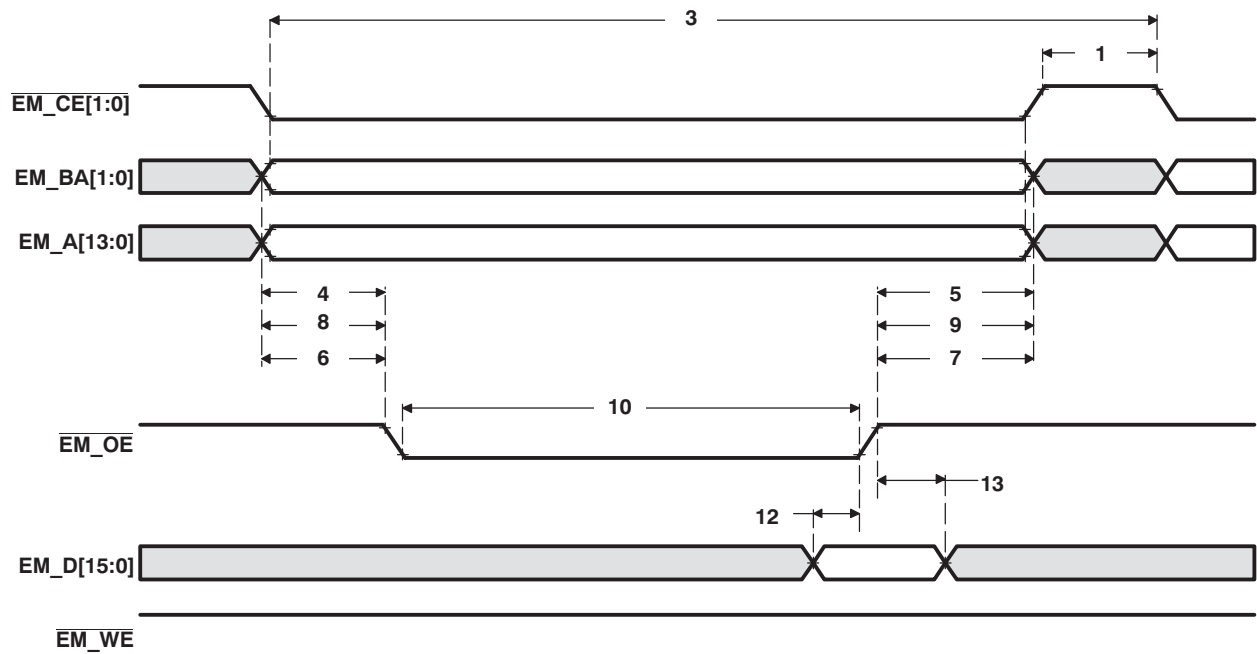
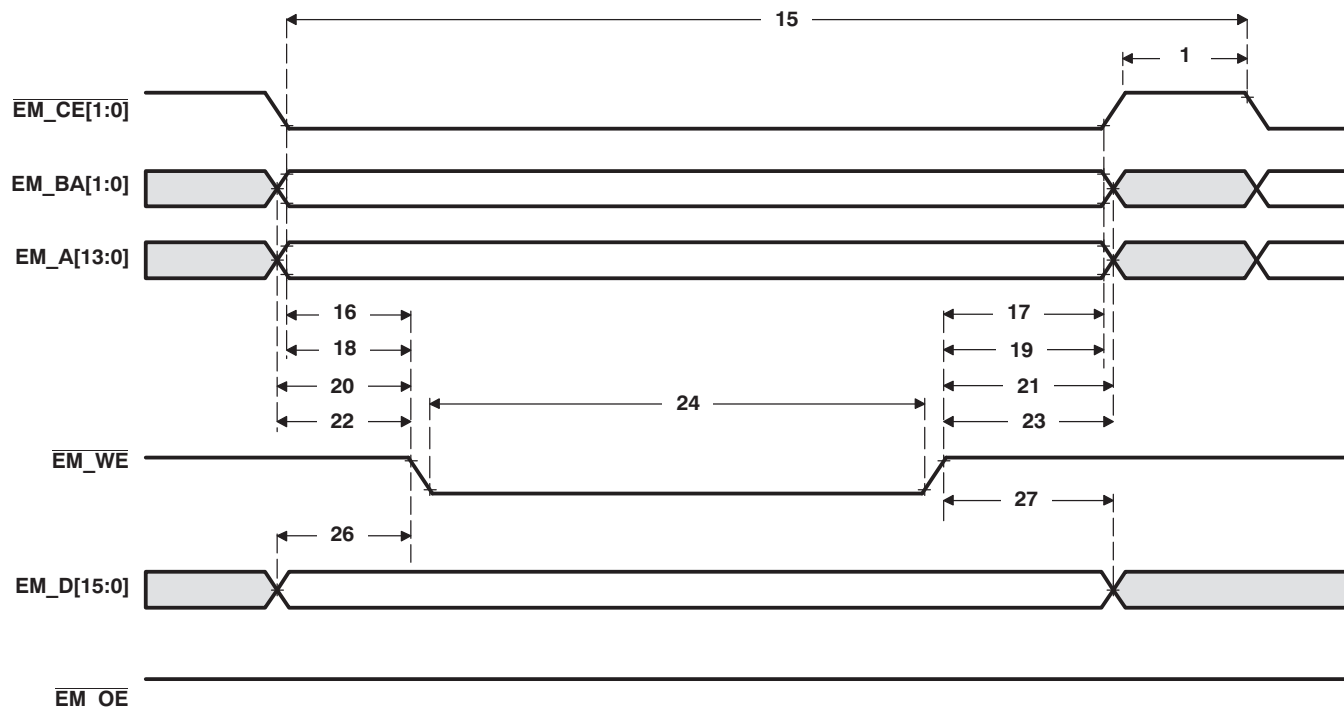

Figure 5-14. Asynchronous Memory Read Timing for EMIF
Figure 5-15. Asynchronous Memory Write Timing for EMIF
**Table 5-13. Timing Requirements for Asynchronous Memory Cycles for AEMIF Module(1) (see Figure 5-14 and Figure 5-15)**
**Table 5-14. Switching Characteristics Over Recommended Operating Conditions for Asynchronous Memory Cycles for AEMIF Module(1) (2) (3) (see Figure 5-14 and Figure 5-15)**
- (1) TA = Turn around, RS = Read setup, RST = Read strobe, RH = Read hold, WS = Write setup, WST = Write strobe, WH = Write hold, MEWC = Maximum external wait cycles. These parameters are programmed via the Asynchronous Bank and Asynchronous Wait Cycle Configuration Registers. These support the following range of values: TA[4-1], RS[16-1], RST[64-1], RH[8-1], WS[16-1], WST[64-1], WH[8-1], and MEW[1-256]. See the *TMS320DM355 DMSoC Asynchronous External Memory Interface (EMIF) User's Guide* (literature number SPRUED1) for more information.
- (2) E = PLLC1 SYSCLK2 period in ns. SYSCLK2 is the EMIF peripheral clock. SYSCLK2 is one-fourth the PLLC output clock. For example, when PLLC output clock = 432 MHz, E = 9.259 ns. See Section 3.5 for more information.
- (3) EWC = external wait cycles determined by EM\_WAIT input signal. EWC supports the following range of values EWC[256-1]. Note that the maximum wait time before timeout is specified by bit field MEWC in the Asynchronous Wait Cycle Configuration Register. See the *TMS320DM355 DMSoC Asynchronous External Memory Interface (EMIF) User's Guide* (literature number SPRUED1) for more information.
**Table 5-14. Switching Characteristics Over Recommended Operating Conditions for Asynchronous Memory Cycles for AEMIF Module (1) (2) (3) (see Figure 5-14 and Figure 5-15 ) (continued)**
Table 5-14. Switching Characteristics Over Recommended Operating Conditions for Asynchronous Memory Cycles for AEMIF Module (1) (2) (3) (see Figure 5-14 and Figure 5-15 ) (continued)